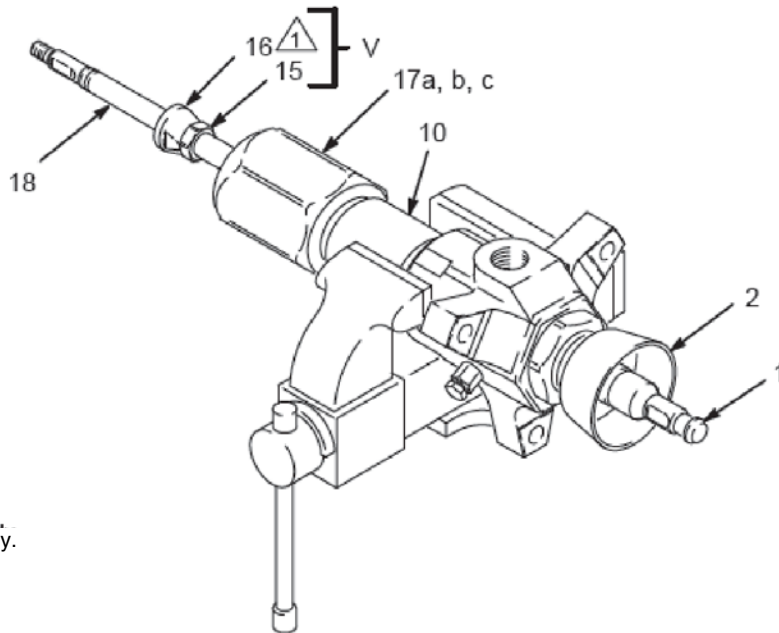

Fig. 14
- Lubricate the priming piston rod (18), then slide the assembled intake valve (V) onto the rod, making certain that the packing nut (15) goes on the rod first. Push the valve assembly up the rod, stopping before it reaches the intake valve housing (17). See Fig. 14.
- Hold the valve body (16) steady with a wrench while using an adjustable wrench to tighten the packing nut (15). See Fig. 14. Torque to 97–107 N.m (71–79 ft-lb). Use a rubber mallet on the priming piston rod (18), to drive the valve assembly up to the stop (VS).